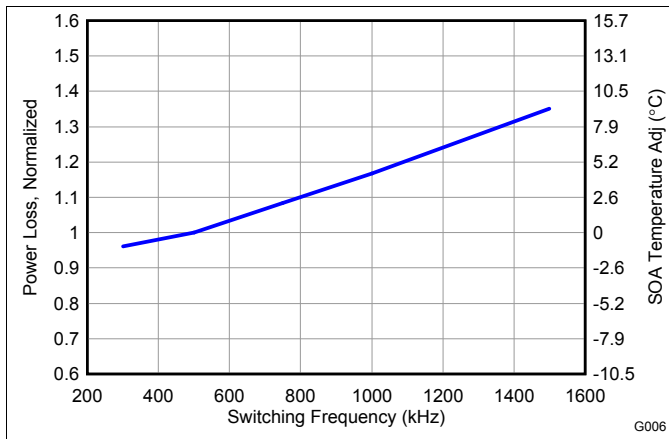

Figure 6. Normalized Power Loss vs Switching Frequency
- Normalized Power Loss for switching frequency ≈ 1.17 (Figure 6)
- SOA adjustment for switching frequency ≈ 4.1°C (Figure 6)